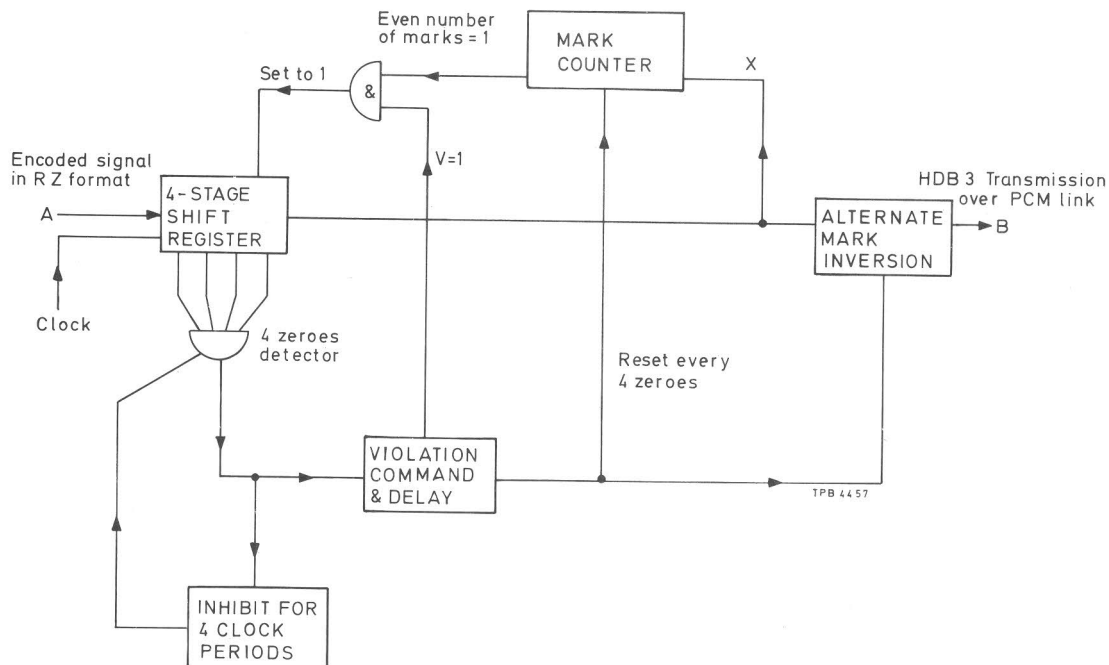

Fig. 1 Simplified block diagram of HDB3 encoder
4. In order to maintain the mean level of the signal at zero volts, successive HDB violations are made to be of alternate polarity. To ensure that successive HDB violation pulses are of alternate polarity, the number of pulses between each successive HDB violation pulse must always be odd. For this reason an additional (B) pulse may be added. Fig. 1 shows a basic block diagram of an encoder showing how these pulses are produced.